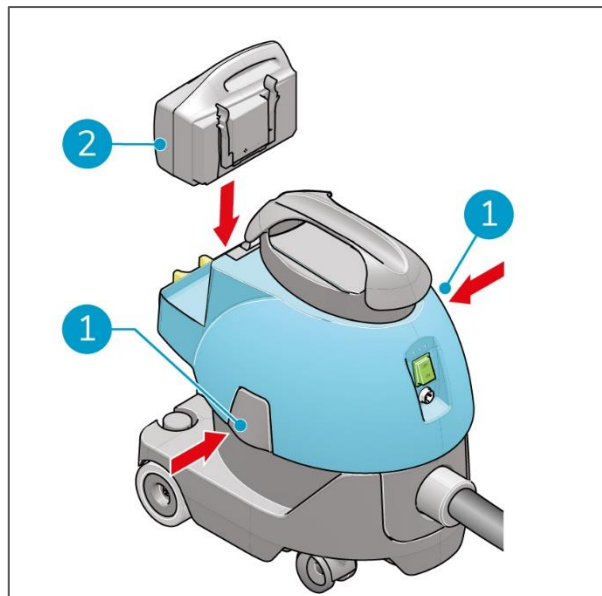

Figure 25
9. Fasten the latches (Figure 25, pos 1).
10. Replace the battery (Figure 25, pos 2).